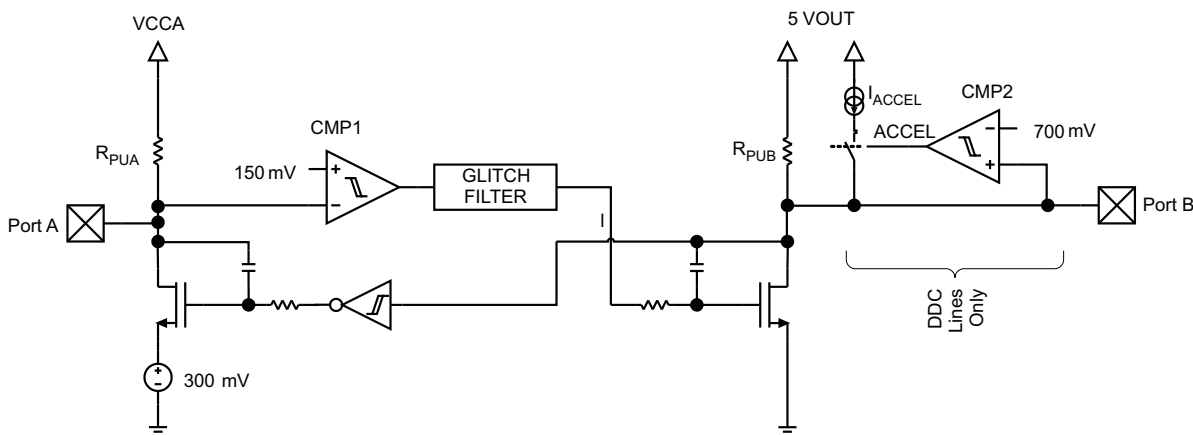

Figure 13. DDC/CEC Level Shifter Block Diagram
- The threshold of CMP1 (see Figure 13) is approximately $150 \text{ mV} \pm$ the 40 mV of total hysteresis.